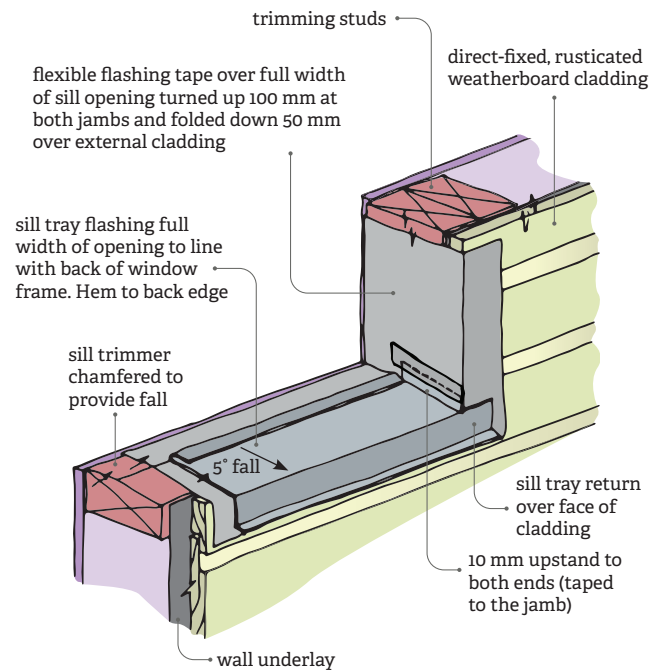

Figure 3. Install a full-width sill tray flashing.
- a full-width sill tray with hem to back edge and upstands and sill tray returns at each end (Figure 3) – this detail is based on installation details in accordance with E2/AS1 prior to Amendment 11